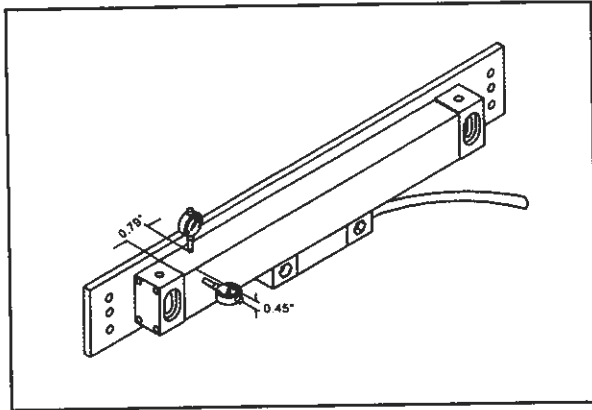

Figure 8. Scale alignment measurements.
8. The horizontal and vertical alignment measurement are taken at 20 mm away from the scale ends, as shown in **Figure 8**.